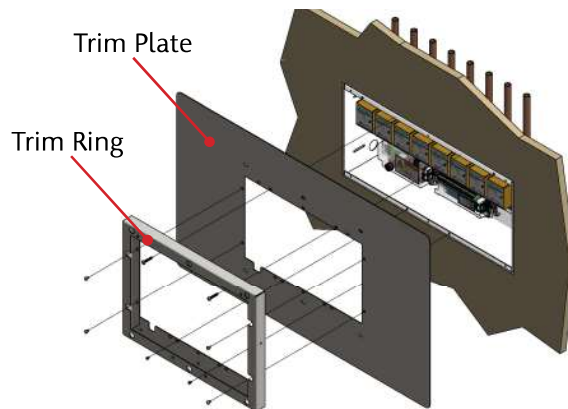

Figure 124: Retrofit Area Trim Panel
- a. Install trim plate assembly to rough-in box using the provided screws and/or drywall anchors. Slots in the trim plate will align with existing holes in the rough-in box flanges (Figure 124).
- a. Remove the trim ring from the standard trim plate and install the wide 27" wide x 16" tall trim plate from retrofit option kit (4107220615). Screws are provided in the option kit for attaching the trim ring to the trim plate (Figure 124).